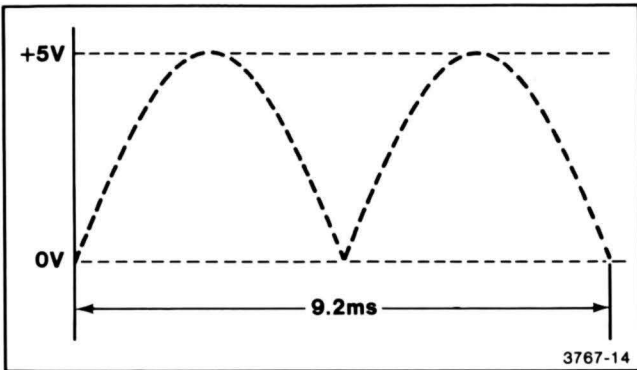

Figure 2-8. Symmetry Waveform.
6. Check for symmetry between waveforms obtained in Steps 4 and 5. If the waveforms are not symmetrical, adjust R492 (XSYM) until symmetry is achieved (see Figure 2-8).
4. Check for symmetry between the waveforms obtained in Steps 2 and 3. If the waveforms are not symmetrical, adjust R491 (YSYM) until symmetry is achieved (see Figure 2-8).